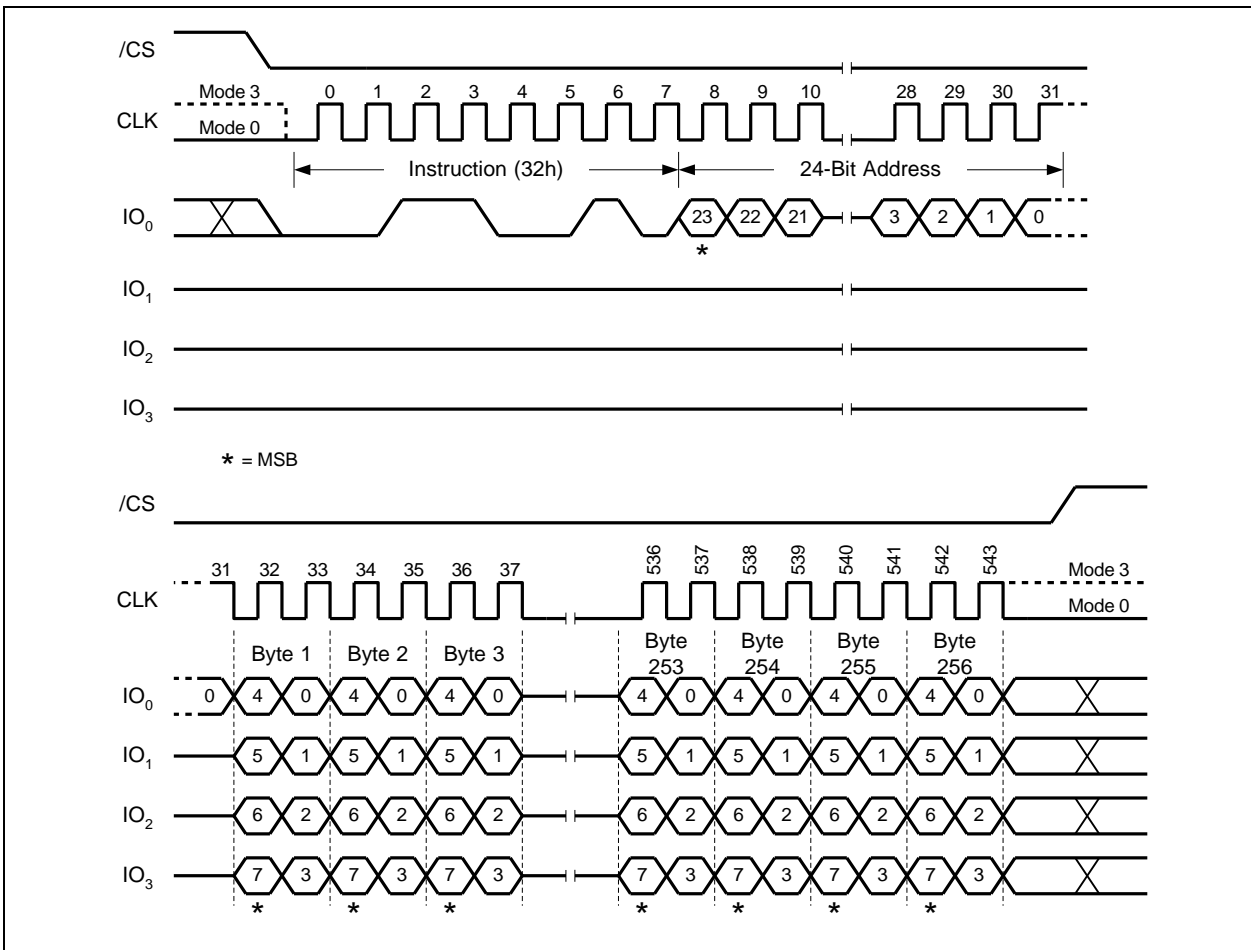

Figure 30. Quad Input Page Program Command (SPI Mode only)
To use Quad Page Program the Quad Enable (QE) bit in Status Register-2 must be set to 1. A Write Enable command must be executed before the device will accept the Quad Page Program command (Status Register-1, WEL=1). The command is initiated by driving the /CS pin low then shifting the command code "32h" followed by a 24-bit address (A23-A0) and at least one data byte, into the IO pins. The /CS pin must be held low for the entire length of the command while data is being sent to the device. All other functions of Quad Page Program are identical to standard Page Program. The Quad Page Program command sequence is shown in Figure 30.